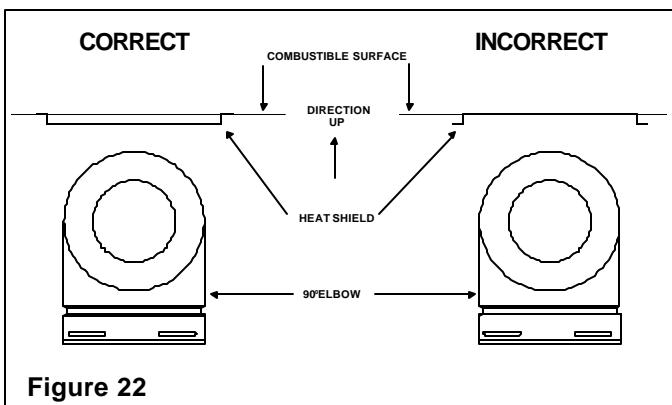

Figure 22
2. Fasten the shield in place using the four pilot holes provided in the part. The shield should be oriented such that the 13 1/8 inch dimension (longest dimension) is running in the same direction the elbow is pointing. The shield should be centered directly above the elbow, and positioned so that it creates a 1/2 inch airspace between the shield and the combustible surface. See Figure 22.